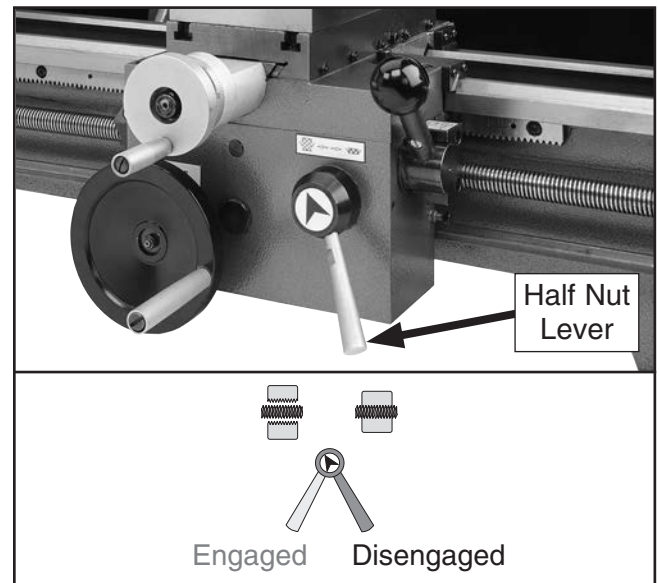

Figure 18. Half nut lever positioned to disengage half nut.
6. Disengage half nut with lever by positioning lever as shown in **Figure 18**.